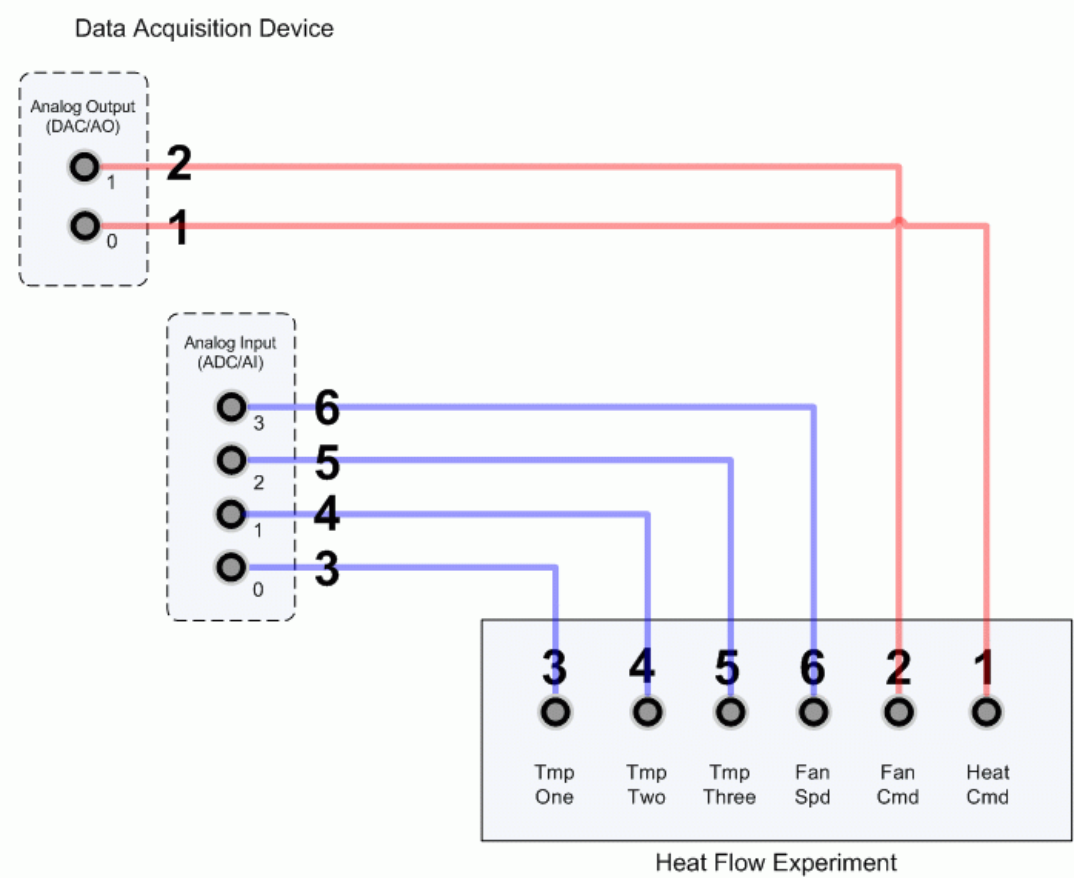

Figure 4: Connections between Heat Flow experiment and DAQ channels.
The typical connections used for to connect the Heat Flow experiment to a data acquisition (DAQ) device is given in Table 3 and illustrated in Figure 4. The connection procedure is given below. **Note:** the DAQ device used in Figure 4 is generic. Make sure the analog input and output channels on your particular DAQ board match the diagram below.
3. Connect the RCA cable from the *Analog Output Channel #0* on the terminal board to the *Heat Cmd* Connector on the Heat Flow. See cable #1 shown in Figure 4. This carries the heater voltage control signal, V_h .
4. Connect the RCA cable from the *Analog Output Channel #1* on the terminal board to the *Fan Cmd* Connector on the Heat Flow. See cable #2 shown in Figure 4. This carries the blower voltage control signal, V_b .
5. Connect *Analog Input Channel #0* on the terminal board to the *Tmp One* Connector on the Heat Flow using an RCA cable, as shown by cable #3 in Figure 4. This carries the voltage signal proportional to the temperature at T_1 , V_{T1} .
6. Connect *Analog Input Channel #1* on the terminal board to the *Tmp Two* Connector on the Heat Flow using an RCA cable, as shown by cable #4 in Figure 4. This carries the voltage signal proportional to the temperature at T_2 , V_{T2} .
7. Connect *Analog Input Channel #2* on the terminal board to the *Tmp Three* Connector on the Heat Flow using an RCA cable, as shown by cable #5 in Figure 4. This carries the voltage signal proportional to the temperature at T_3 , V_{T3} .
8. Connect *Analog Input Channel #3* on the terminal board to the *Fan Spd* Connector on the Heat Flow using an RCA cable. See cable #6 in Figure 4. This carries the voltage signal from the tachometer that measures the speed of the blower axial fan, ω_b .